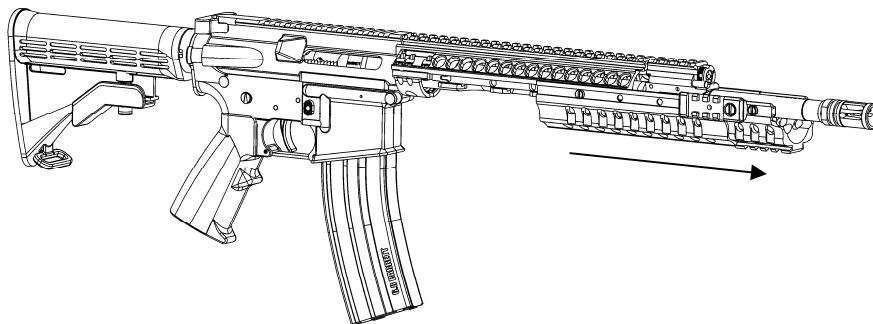

Figure 31.
3. Slide bottom half off of handguard while holding top half. (Figure 31).